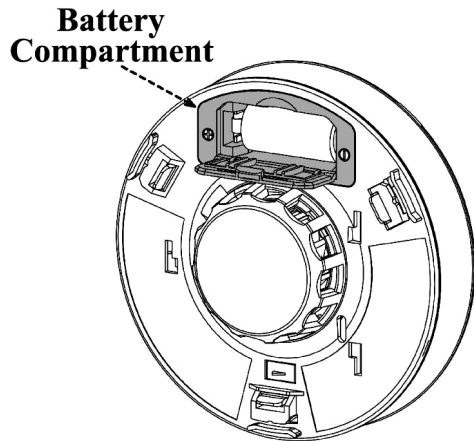

Fig. 8: Battery compartment location
7. Battery Installation (see Fig. 8):